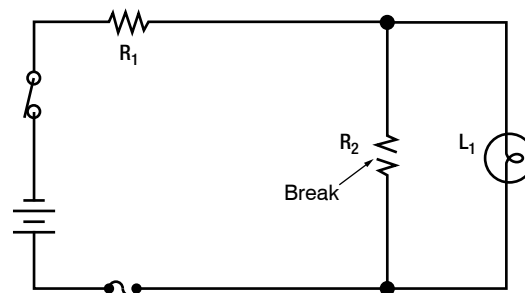

Figure 3-135. An open in the parallel portion of a series-parallel circuit.
2. If the open occurs in the parallel portion of a series-parallel circuit, as shown in **Figure 3-135**, part of the circuit will continue to function. In this case, the lamp will continue to burn, but its brightness will diminish, since the total resistance of the circuit has increased and the total current has decreased.